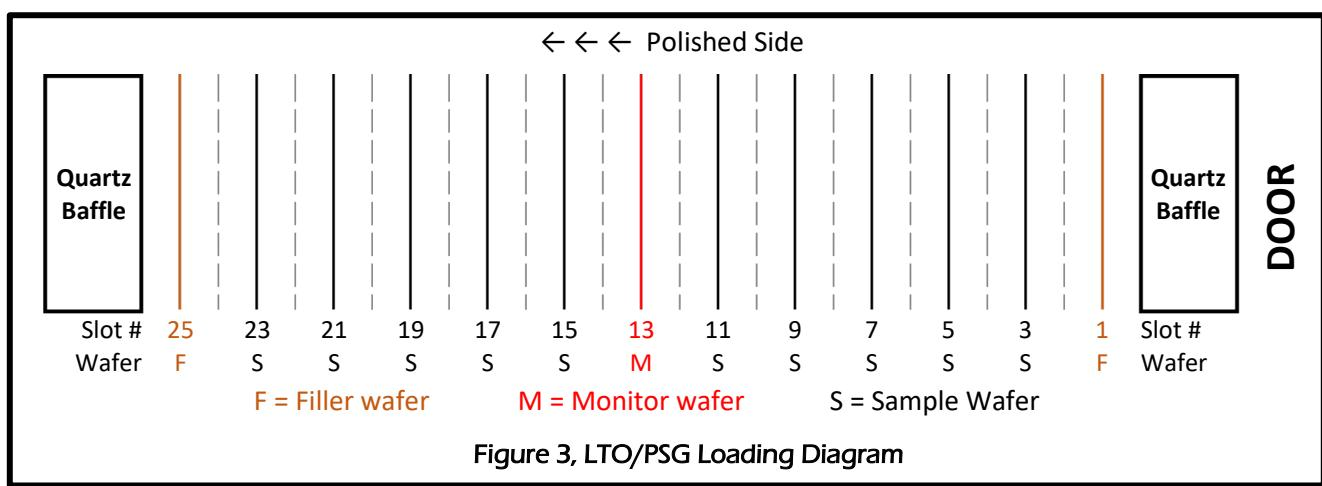

Figure 3, LTO/PSG Loading Diagram
- 8.4.2.4.2 Load monitor wafers onto the boat in slot 13 (see **Figure 3, LTO/PSG Loading Diagram**).